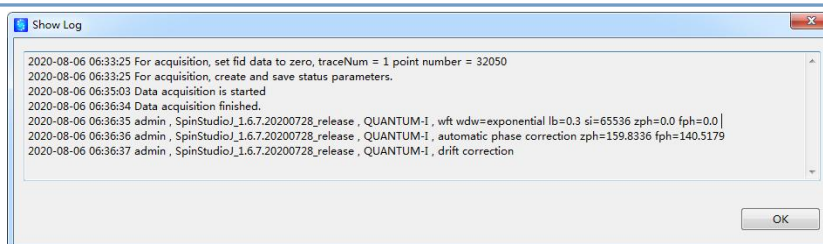

Figure 1.76 Dialog of showing log
- ④ Show Log: Display data acquiring, processing and other records, as shown in Figure 1.76.